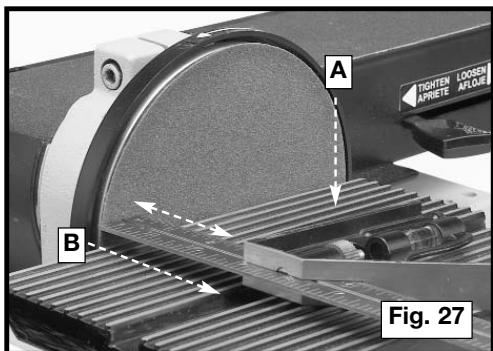
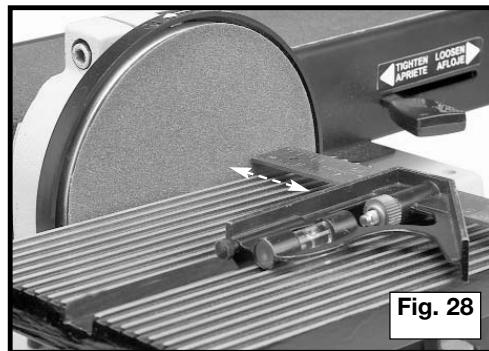

Fig. 27
Fig. 28
1. Place an adjustable combination square on the table with the part (A) Fig. 27 in the miter gauge slot (B) to check the distance from the slot to the sanding disc. Check the other side of the disc in the same manner (Fig. 28). The distances should be the same.